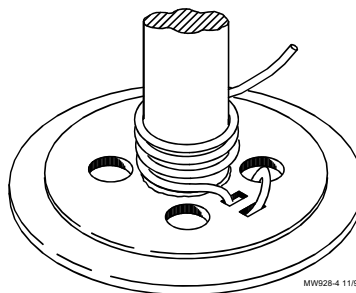

Figure 16. Cable Wrap on Drum
6. Attach one end of the 3/16" [4.8 mm] cable to the winch as shown in **Figure 16**. Unroll the cable along the length of the water line.